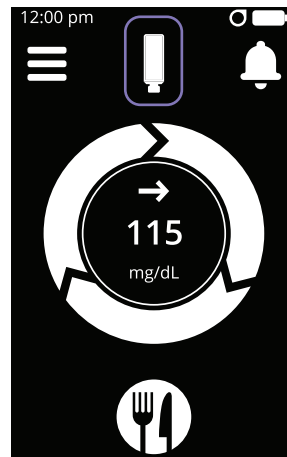

Figure 72
- a. From the **Home** screen, tap the **Cartridge** icon (see Figure 72).